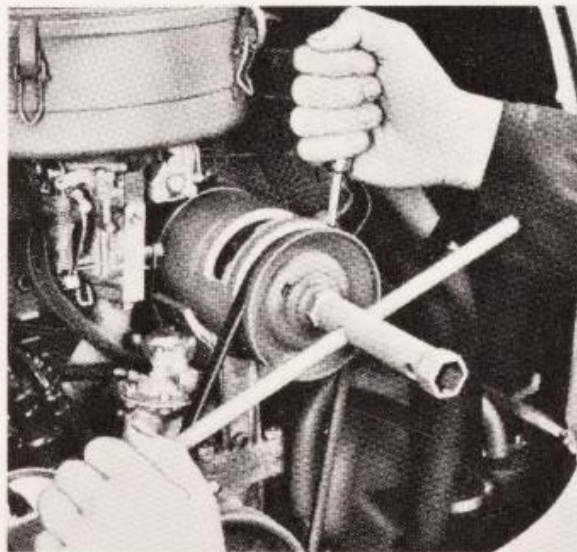

Fig. D-10. Inner pulley has slot to aid in removing and replacing fan pulley nut.
- 2 - Remove outer pulley half, Fig. D-10.